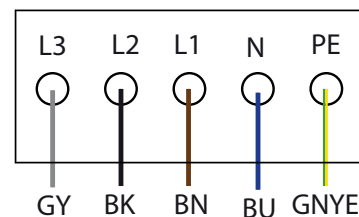

Figure 15: AC connection terminals
- 6. Connect the wires in accordance with the labels on the PCB terminals (Figure 15).